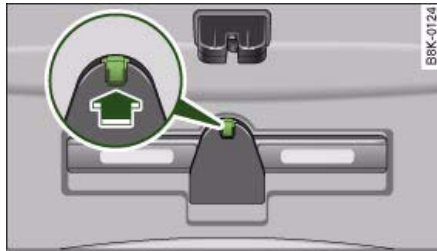

Fig. 234 Warning triangle fitted inside boot lid
- To remove the warning triangle, push the tab in the direction indicated by the arrow ⇒ fig. 234 and pull the retainer down.